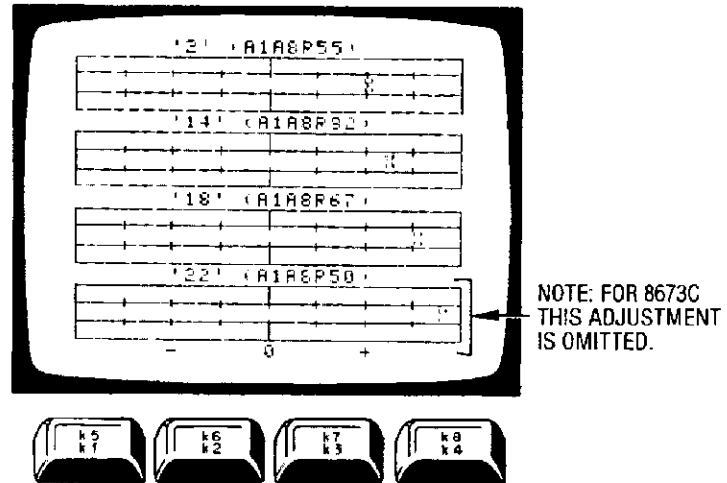

Figure 5-39. Flatness Adjustment
- d. Three or four axes for the HP 8673C and HP 8673D respectively, representing the slope adjustment for each flatness region, are drawn on the controller screen (see figure 5-39). The center